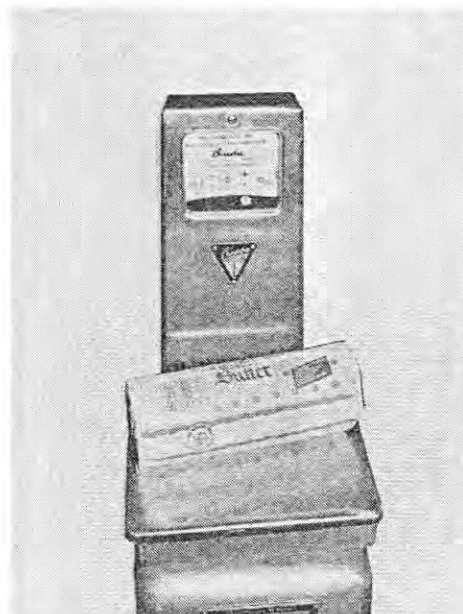

Fig. 123
21. Remove packages from the conveyor belt and check their weight (Figure 123).